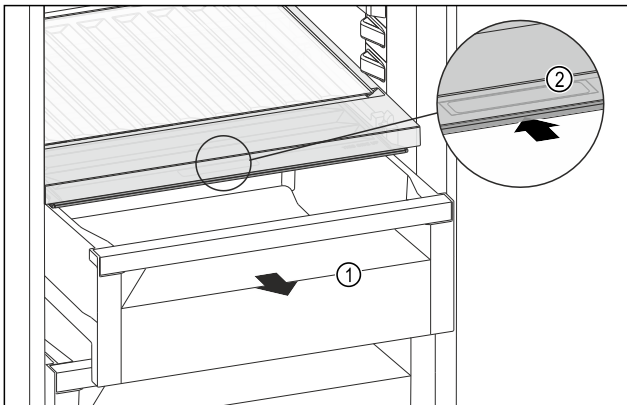

Fig. 181
- ▶ Pull out the drawer Fig. 181 (1).
- ▶ Grasp the recessed grip Fig. 181 (2) on the compartment lid and push the compartment lid backwards at the same time.